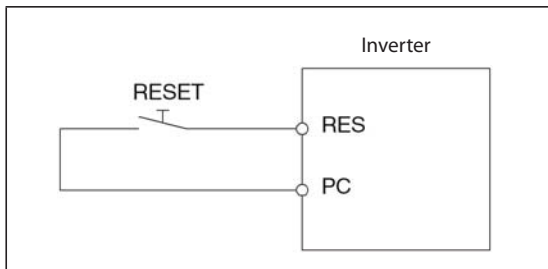

Fig. 7-2:
- Turn on the reset signal RES for more than 0.1s. (Connect the terminals RES and PC as shown in fig. 7-2 when using source logic or terminals RES and SD when using sink logic). (If the RES signal is kept on, "Err." appears (flickers) to indicate that the inverter is in the reset status.)